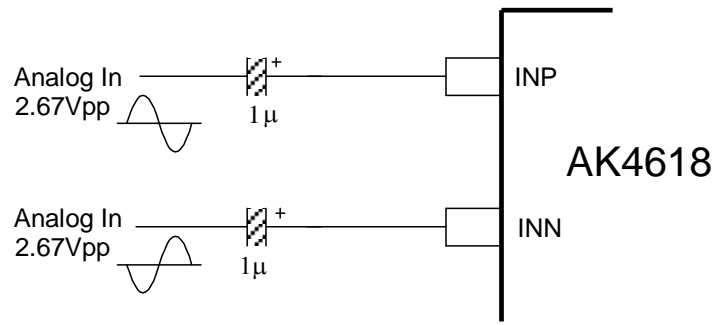
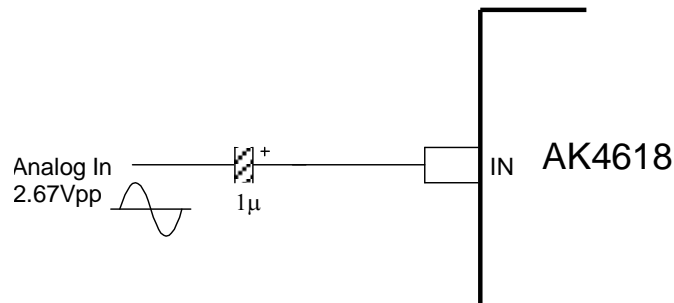

Figure 50. Input Buffer Circuit Example 1 (AC coupled differential input)
Figure 51. Input Buffer Circuit Example 2 (AC coupled single-ended input)
*2: Refer to Figure 50, Figure 51